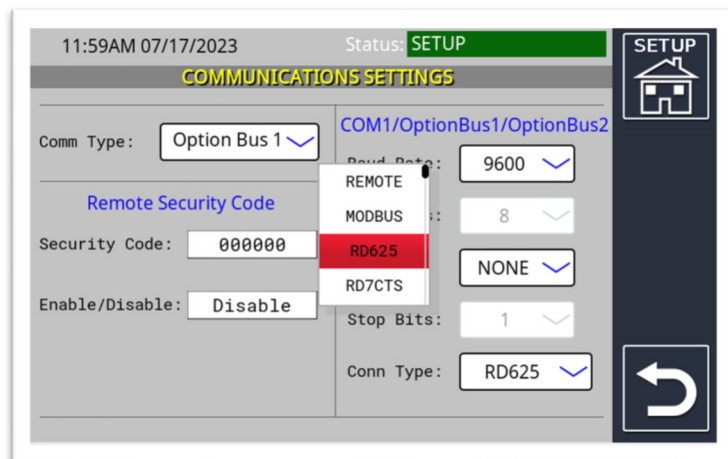

Figure 14.6
**Note:** RD625 (digital display) only operates on RS-485 communication and will *not* function with RS-232. (See Figure 14.6)